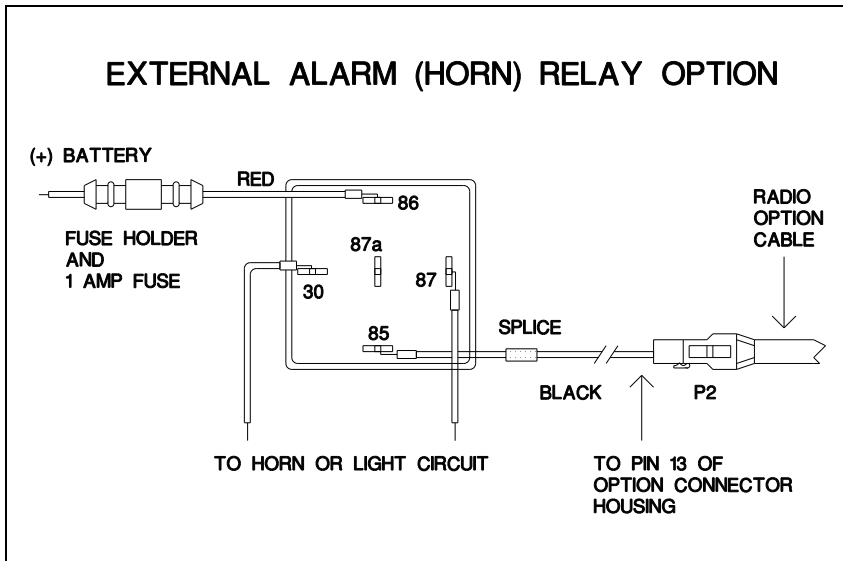

Figure 11 - External Alarm Relay
3. Plug the Option Cable into J905A on the System Board and push the strain relief on the cable into the slotted opening. Refer to Figure 11.
3. Crimp an insulated 1/4 inch spade tab receptacle to one end of the #18 red wire. Connect the receptacle to relay lug #86. Cut the red lead so the fuse assembly is close to the voltage source. Install the fuse holder. Attach the other end of the fuse lead to the voltage source with appropriate hardware. See Figure 11.